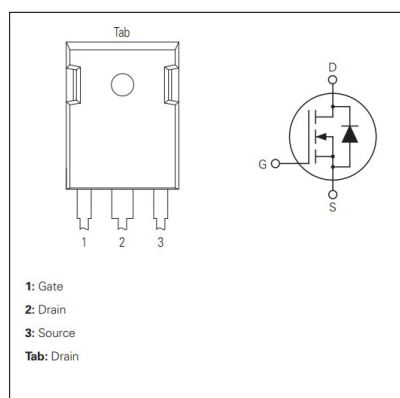

Figure 2. Pinout Diagram of TO-247 and Circuit Symbol of an N-channel Enhancement Mode MOSFET
- **Pinout Diagram** provides a visual representation of the device's physical layout including circuit symbol as highlighted in Figure 2.